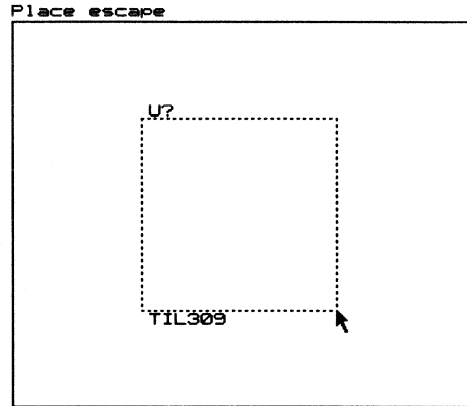

Figure 5-1. Part editing pad.
9. Move the pointer to location (+12.0, +12.0). This changes the part body border to a square shape. Figure 5-1 shows the part editing pad when the pointer is at location (+12.0, +12.0).